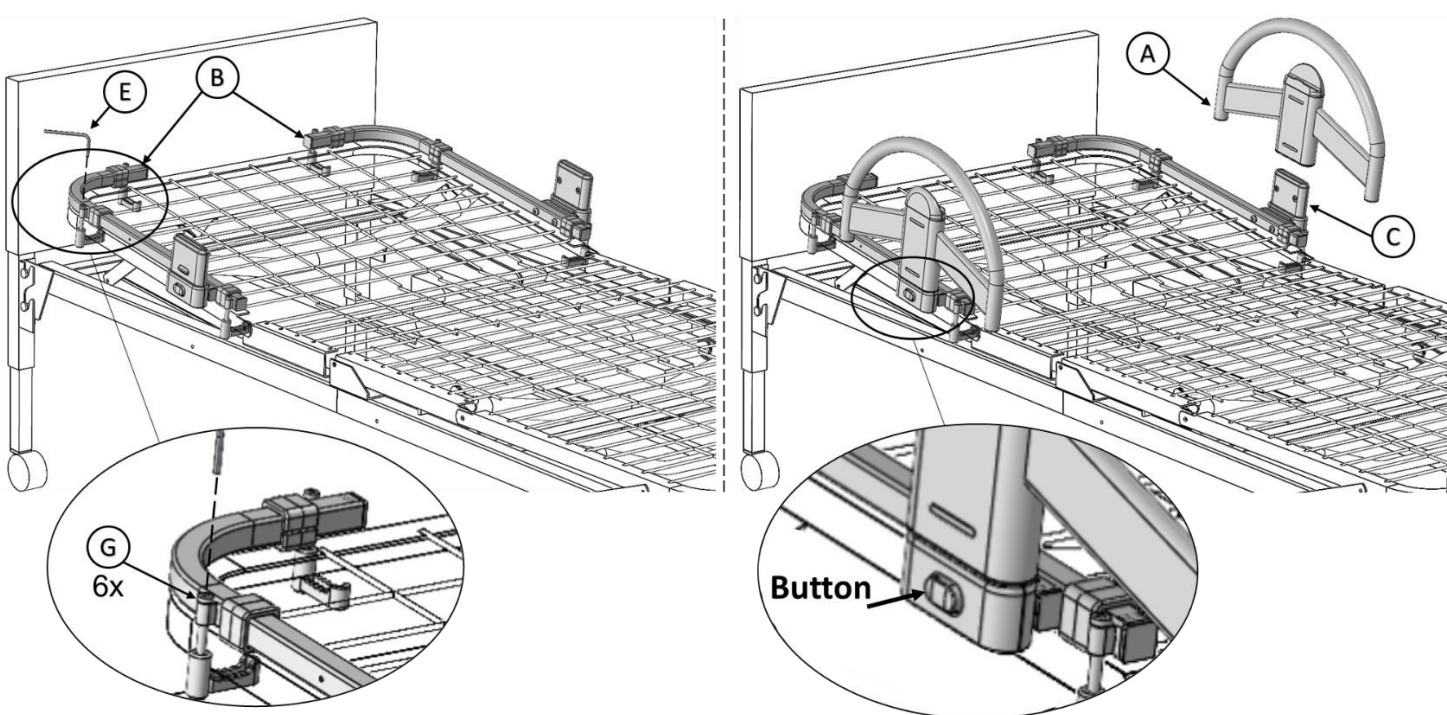

FIGURE 5
5. Finish securing **B** to the bed by tightening **G** using the tool provided (**E**) as shown in *FIGURE 5*. Install **A** onto **C** until **Button** clicks. To remove **A**, press **Button** in and pull **A** upwards.